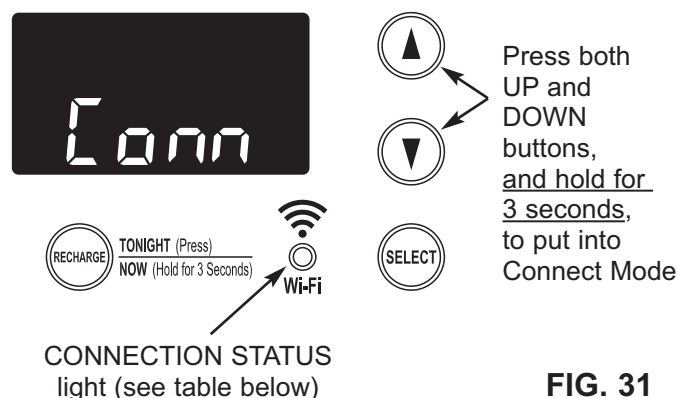

FIG. 31
3. On the water softener's front panel (see Fig. 31), press both the ▲ UP and ▼ DOWN buttons, and hold them for 3 seconds.
4. Release the buttons when “Conn” appears in the display (See Fig. 31) and the connection status light begins flashing amber.